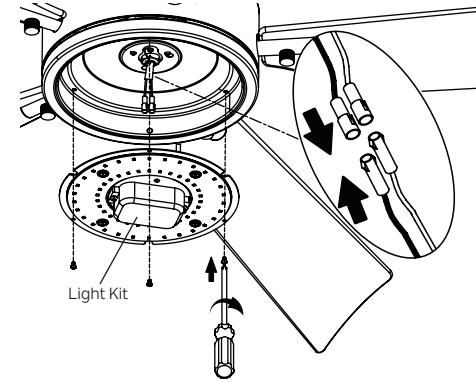

Fig. 22
Step 1. Hold the LED light kit to light plate, then connect the 2 single pin connectors from the light kit to the 2 single pin connectors from the motor assembly. Connect the black wire to the black wire, and the white wire to white wire. Attach the light kit to the light plate and securely tighten with three (3) screws from the screw pack. (Fig. 22)